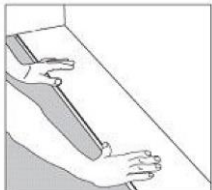

Figure 1
7. Starting from the left with the tongue facing the wall, carefully place the first board in place (**Figure 1**).